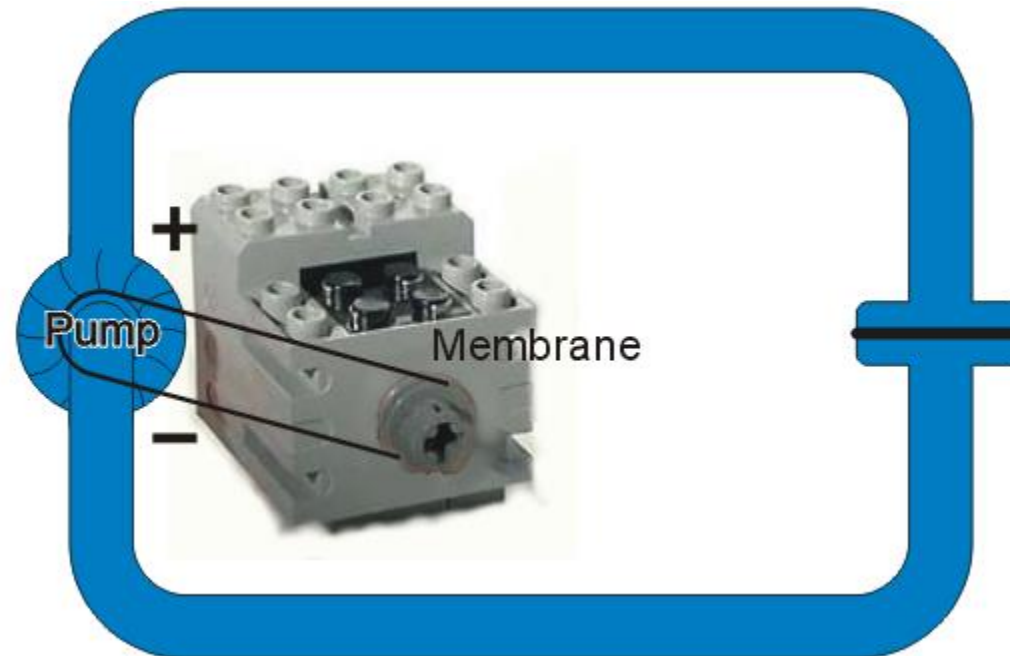

Fig 5: A pump in a closed loop with a membrane blocking the flow
- Explaining a capacitor in terms of this analogy with a flow of water is more difficult; however, we will look at associating the capacitor with an unstretched membrane blocking the flow of water as is shown in **Fig.5**.